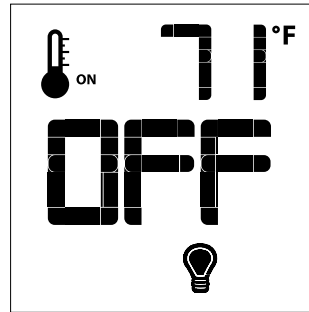
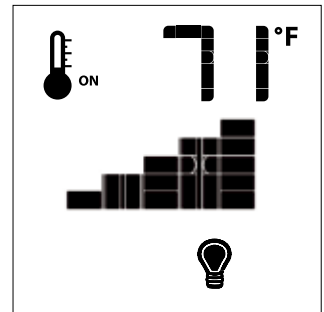

Figure 15
Figure 16
The auxiliary function controls the AUX power outlet by the dimmable light control. To activate this function use the Mode Key (fig. 1) to index to the AUX icon (fig. 15 & 16). The intensity of the output can be adjusted through six (6) levels. Use the Up/Down Arrow Keys (fig.1) adjust the output level (fig. 16). A single "beep" will confirm reception of the command.